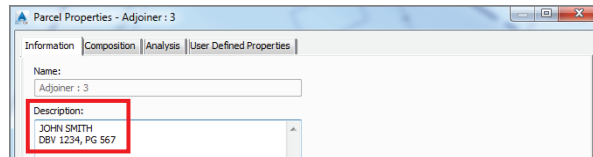

FIGURE 13.4 Entering a description for the Adjoiner : 3 parcel
4. Click the Information tab. In the Description box, enter **JOHN SMITH** on the first line and **DBV 1234, PG 567** on the second line, as shown in Figure 13.4. Click OK, and press Esc to clear the selection.